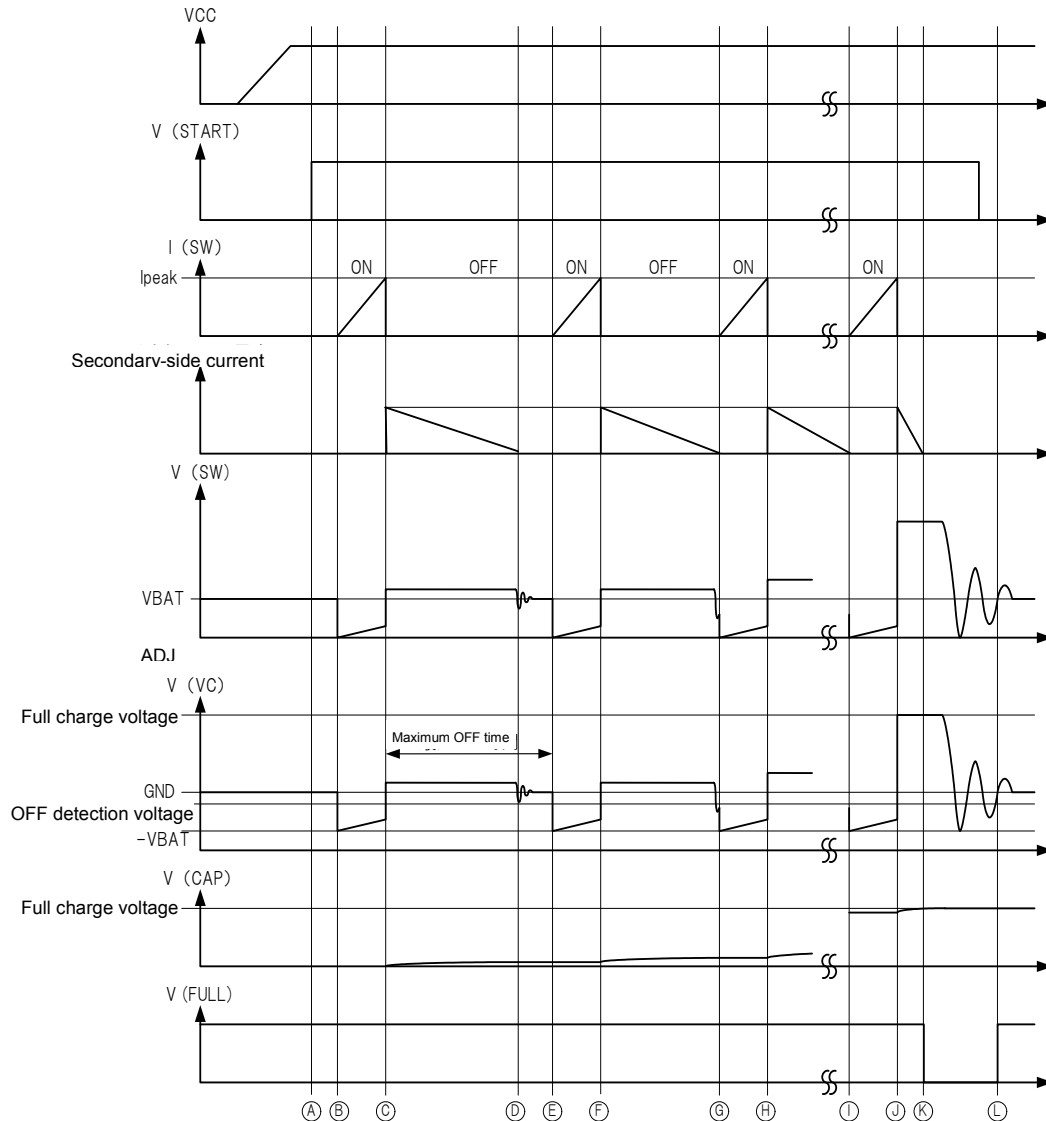

Fig 34. Timing Chart 2: Switching Operation
The switching operation of this IC is shown in Fig.34 Timing Chart 2.
If the START pin is set to "H", all internal circuits are reset, the internal PowerTr is turned ON. (See Fig 34. Time ④→⑤.) While the internal PowerTr is turned ON, a current is passed into the SW pin. When the current specified at the RADJ pin voltage is reached, the PowerTr is turned OFF. (See Time ⑥ in Fig 34.) The time  $t_{ON}$  when the PowerTr is ON is indicated as follows:
When the energy release to the transformer secondary-side is completed, the VC pin voltage and the SW pin voltage produce resonance by the parasitic capacitance and the transformer inductance. (See Time ④ in Fig 34) At this time, unless the VC pin voltage becomes the GND voltage or less shown, the PowerTr remains OFF till the maximum OFF time is reached. (See Time ⑤ in Fig 34) As soon as the OFF detection voltage or less is reached, the PowerTr is turned ON. (See Time ⑥ in Fig 34) The time,  $t_{OFF}$  when the secondary-side releases energy is represented by the following equation:
When it is detected that the internal PowerTr is left OFF for over the maximum OFF time specified in the electrical characteristics, the PowerTr is forced to be turned ON. This occurs unless the VC pin voltage becomes the OFF detection voltage specified in the electrical characteristics or less. (See Time ㉛ in Fig 34)
VC pin node is divided by between transformer Secondary node and Fast recovery diode anode side by resistor  $R_{FB1}$ ,  $R_{FB2}$  and  $R_{FB3}$ . When VC pin voltage reach until full charge voltage as Fig.34 timing chart ①~④, charge is stopped.